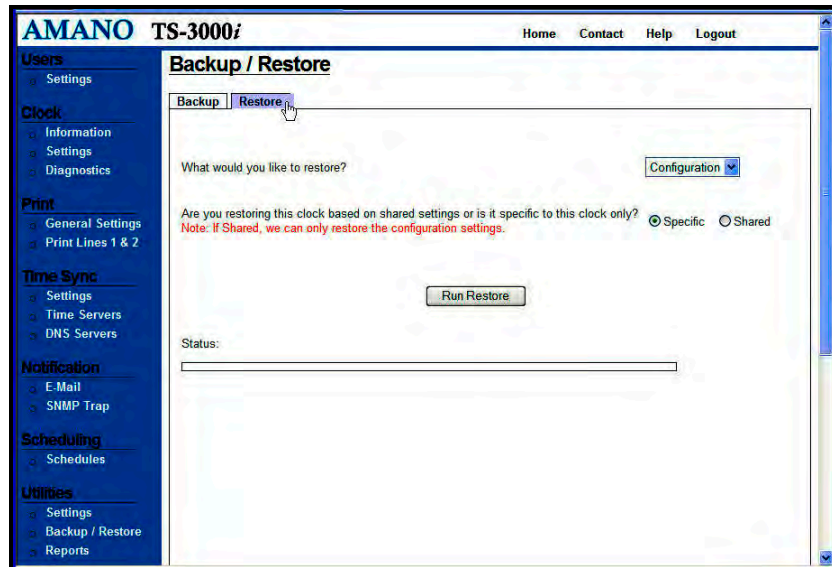

Figure 4-26. Restore Utility.
Step 1. From the Backup/Restore link under Utilities, click on the **Restore** tab to perform a restore for the TS-3000i (see *Figure 4-26*).